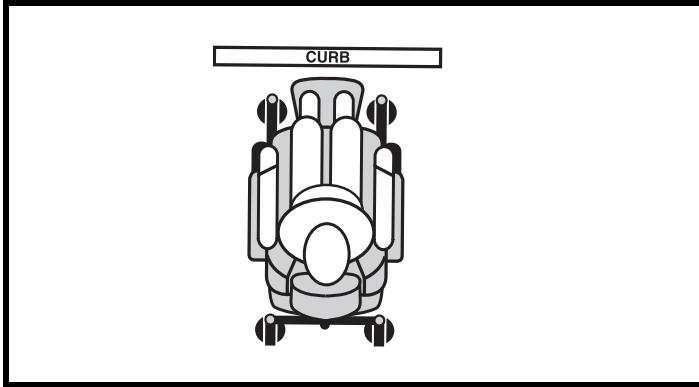

Figure 2. Correct Curb Approach
Proceed with extreme caution when driving near raised surfaces, unprotected ledges, and/or drop-offs (curbs, porches, stairs, etc.). Be sure your power chair is traveling perpendicular to any curb you are required to navigate. See figure 2.
1. Approach the curb or obstacle slowly, and make sure the power chair is traveling perpendicular to the obstacle. See figure 2.